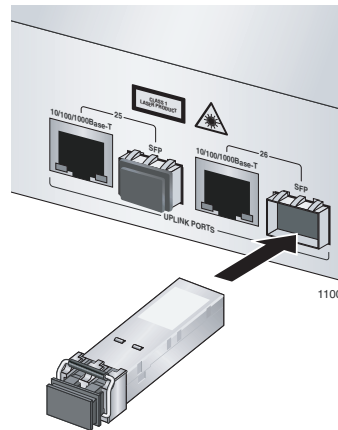

Figure 12. Inserting the SFP
4. Slide the SFP transceiver into an SFP slot on the switch, as shown in Figure 12.